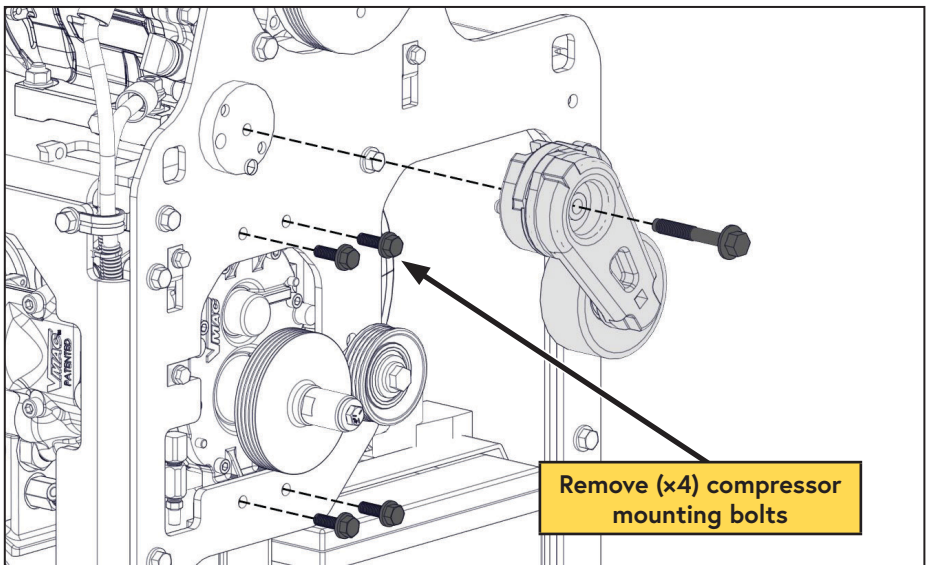

Figure 66 — Remove compressor
- Remove the tensioner (to gain access to the top compressor bolts) (Figure 66).
- Remove the (x4) bolts securing the compressor to the belt guard (Figure 66).